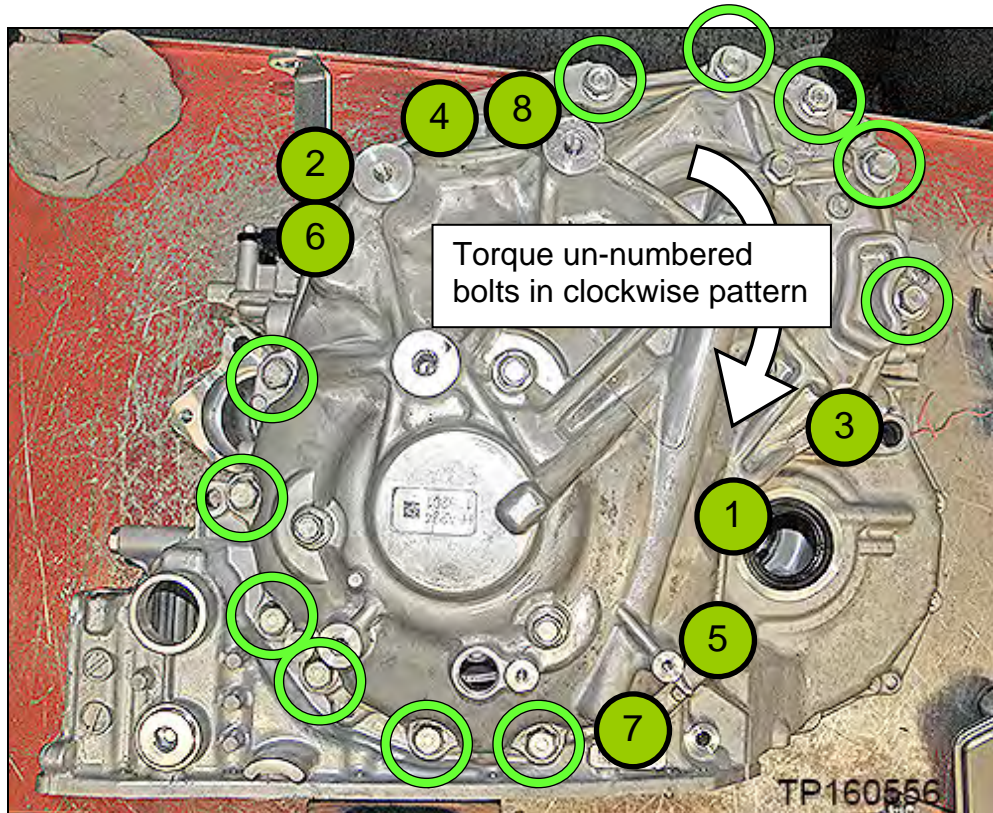

Figure 33F
27. Install the new side cover bolts for sub-assembly to the CVT case (Figure 33F).
- Torque the first eight (8) bolts marked as ● in the sequence numbered in Figure 33F below, and then torque the rest of the bolts in a clockwise manner.